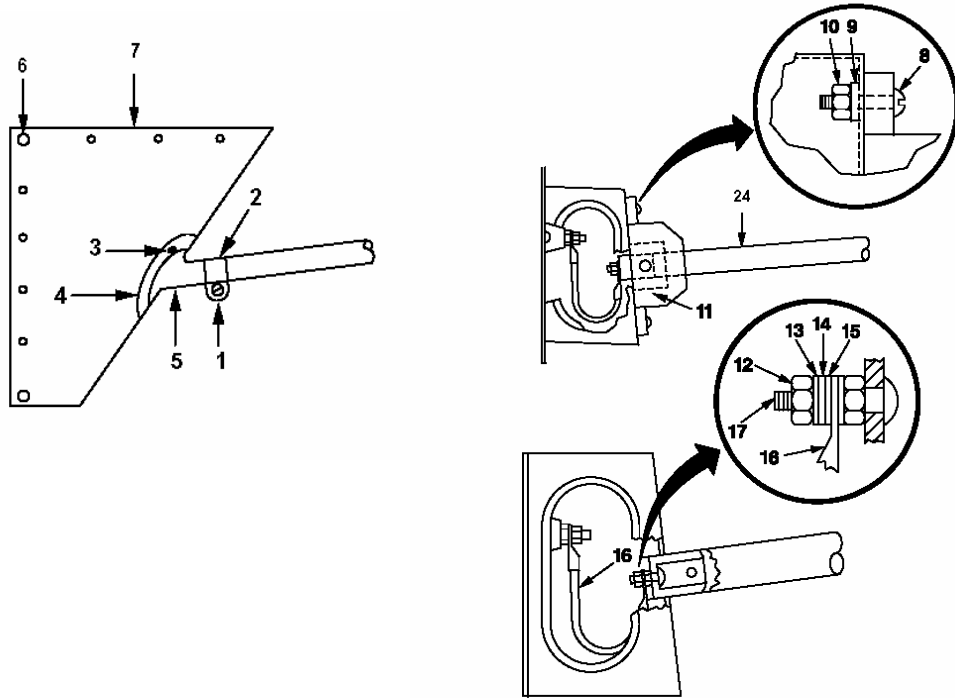

Figure 2
- (7) Insert Episeal 10-10 (Metal Set or equivalent) through tape using syringe.
- (8) Sand area after drying.
- c. Removal HF Antenna. (If Installed.) (See Figure 2.)
- (1) At rear of fuselage loosen screw (1) on clamp (2).
- (2) Remove 3 screws (3).
- (3) Slide ring (4) and boot (5) toward rear of tailboom.
- (4) Remove 18 screws (6) from access door (7).
- (5) Slide access door (7) toward rear of tailboom.
- (6) Remove four screws (8), washers (9) and nuts (10) from insulator (11).
- (7) Slide insulator (11) toward rear of tailboom.
- (8) Remove nut (12), washer (13), lockwasher (14) and washer (15).
- (9) Remove jumper assembly (16) from antenna terminal (17). Retain hardware.